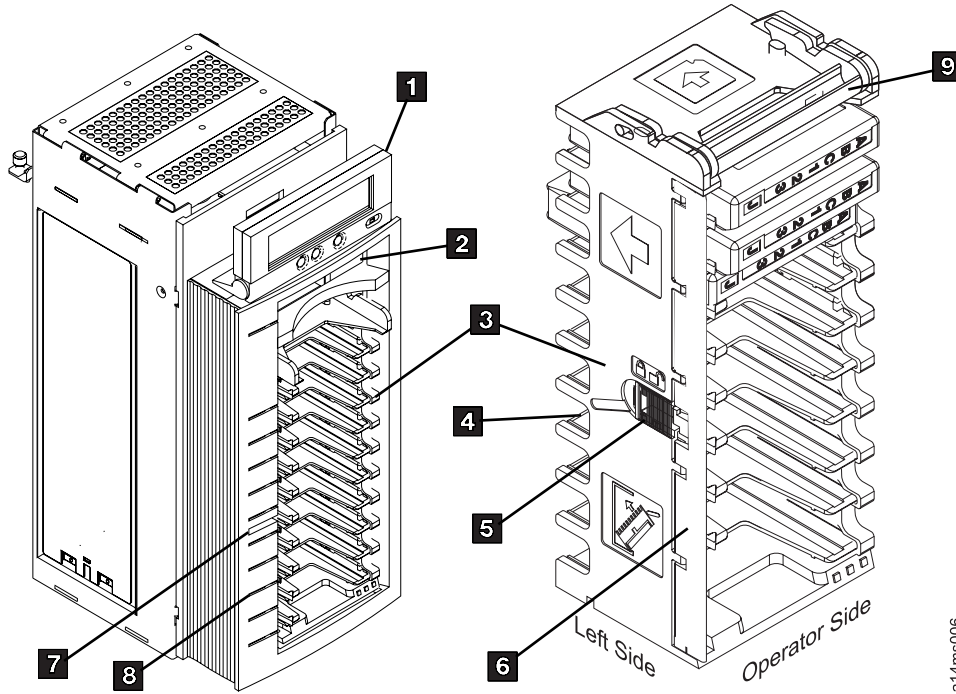

Figure 6-1. 3590 ACF and Magazine
The ACF magazine, P/N 39F4762, weighs 0.68 kg (1.5 lb) and each cartridge weighs 0.23 kg (0.5 lb). Figure 6-1 on page 6-3 shows the automatic cartridge facility with a magazine installed. The ACF is attached to the tape drive mechanism.
The mechanical functions of the ACF (shown in Figure 6-1) are:
**Note:** The ACF automatically unlocks the magazine cartridge lock when the magazine is correctly inserted. You must manually push the lock button in (see **5** in Figure 6-1 on page 6-3) if the mode selected requires a locked magazine.